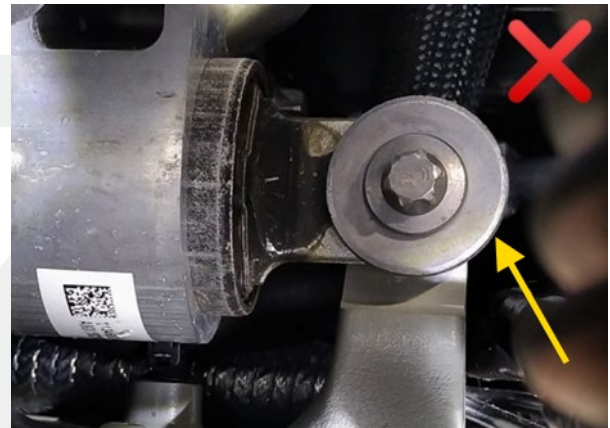

Figure 6
- If the clevis is not visible past the front edge of the foremost washer (Figure 6), the clevis requires repositioning; continue to step 2.b.